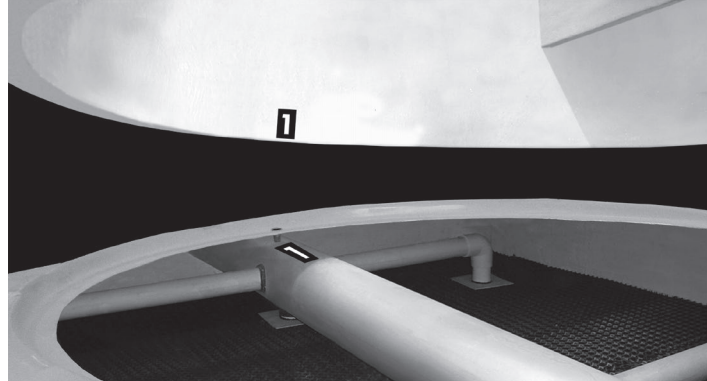

Figure A-71: Fan Duct alignment for a Modular Tower (RTM-B-S)
- G.** Identify each fan duct, they are labeled with a number on the inside of the lower edge. For a correct installation, this number must match the number on the distribution manifold of the corresponding body section. Now place fan duct 1 on the correspondent receiving flange on top of the Tower; make sure the bolt holes and the marks inside the fan duct and the receiving flange are aligned (see Figure A-71). Secure it with the stainless steel nut and bolt sets supplied by REYMSA.